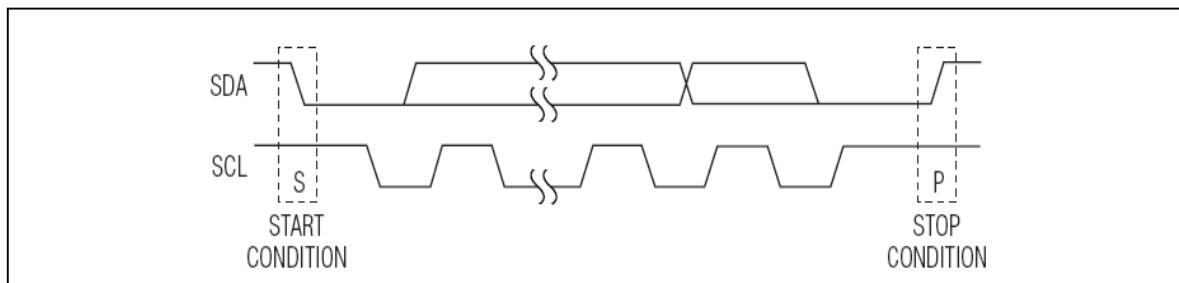

Figure 2 START and STOP Conditions
SDA operates as both an input and an open-drain output. A pull up resistor, typically 4.7kΩ, is required on SDA. SCL operates only as an input. A pull up resistor, typically 4.7kΩ, is required on SCL if there are multiple masters on the 2-wire interface, or if the master in a single-master system has an open-drain SCL output. Each transmission consists of a START condition sent by a master, followed by the IS31IO7325's 7-bit slave addresses plus R/W bits, 1 or more data bytes, and finally a STOP condition (see Figure 2).
Both SCL and SDA remain high when the interface is not busy. A master signals the beginning of a transmission with a START (S) condition by transitioning SDA from high to low while SCL is high. When the master has finished communicating with the slave, the master issues a STOP (P) condition by transitioning SDA from low to high while SCL is high. The bus is then free for another transmission (see Figure 2)